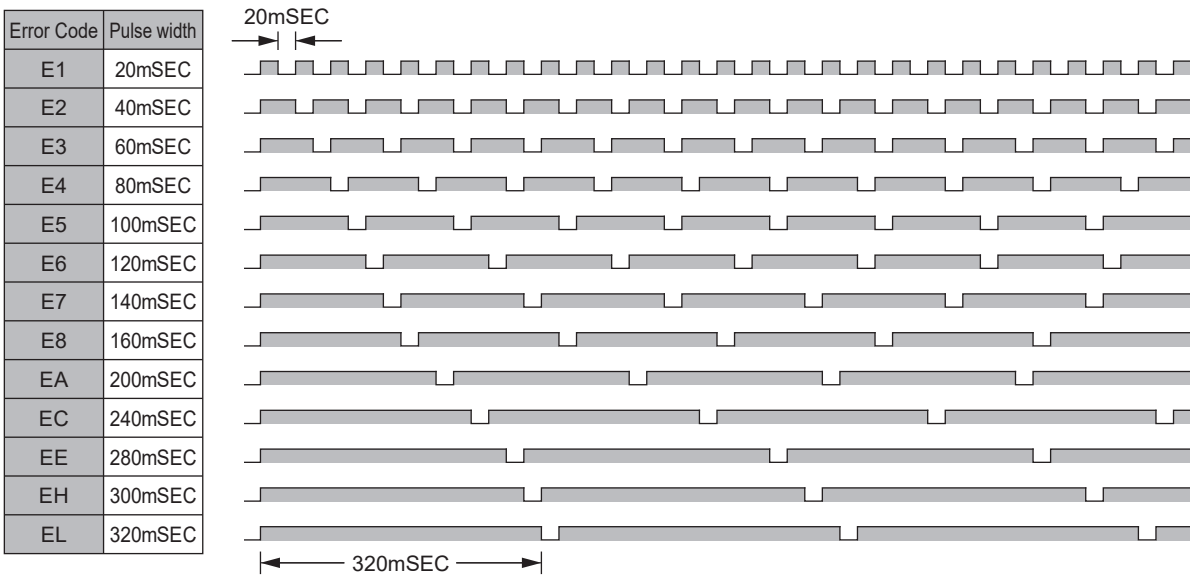
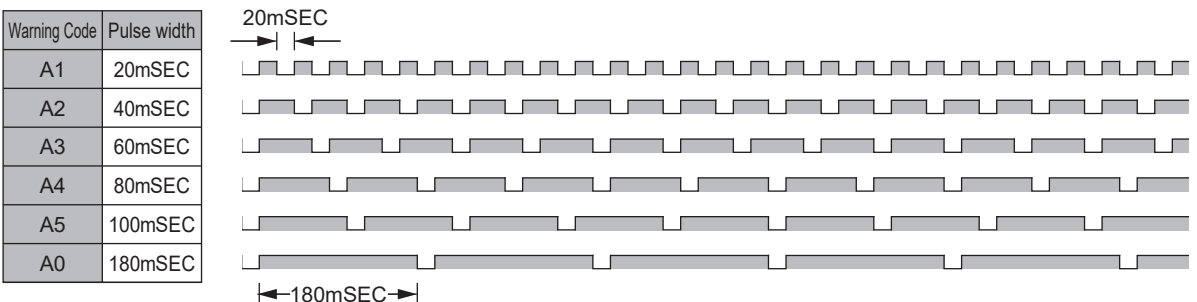

Fig. 34
Fig. 35
CD If an error / warning occurs during selection, a signal with the error / warning code patterned as shown below is output. When an error occurs, an error signal is output to the external Input / Output Connector A ③ (terminal No. 8: ERR). (Refer to Fig. 34.) When a warning occurs, a warning signal is output to the external Input / Output Connector A ③ (terminal No. 20: WARNING). (Refer to Fig. 35.) The signal when no error / warning has occurred is OFF (open).